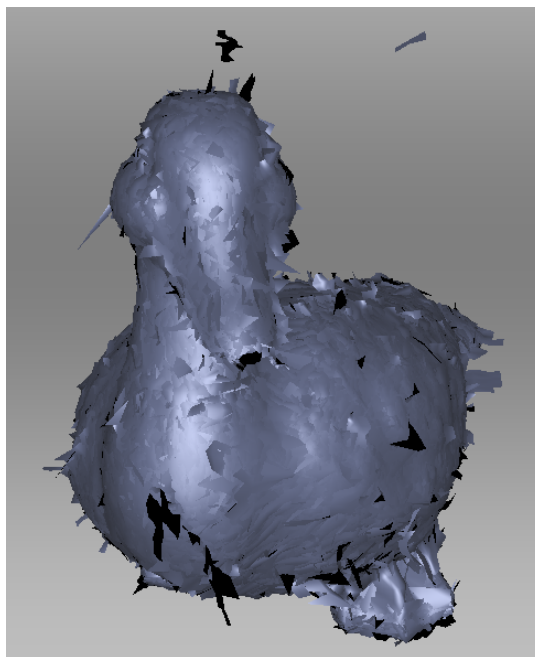

Figure 96: Alignment result.
4. Click *Align...* to run the alignment with your specified restrictions (Figure 96 shows example results). If you are dissatisfied with the alignment results, click ↶ and specify additional point sets, or reposition the current sets. To redo an operation that you have undone, click ↷.